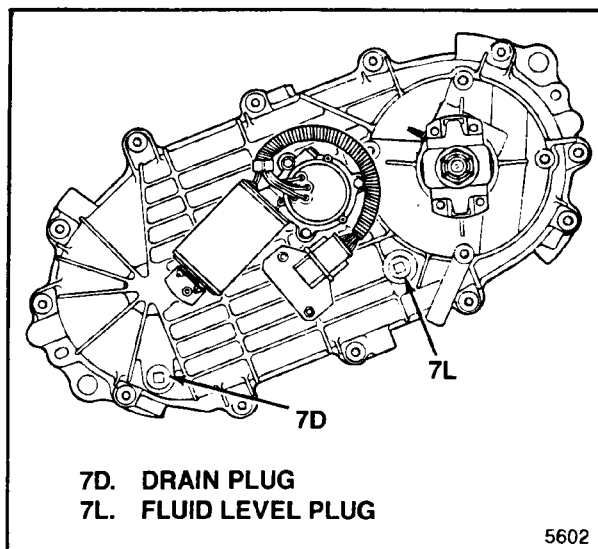

Figure 2-1. Drain and Fluid Level Plugs
- Wipe fluid level plug (see figure 2-1) and surrounding area clean.
- Wipe fluid level and drain plugs (see figure 2-1) and surrounding areas clean.
- e. Place drain pan under transfer case and remove transfer case drain (7D) and fluid level (7L) plugs (see figure 2-1). Drain all fluid from transfer case and re-install plugs.
- g. On mechanical shift units, disconnect shift linkage from transfer case shift lever (77).